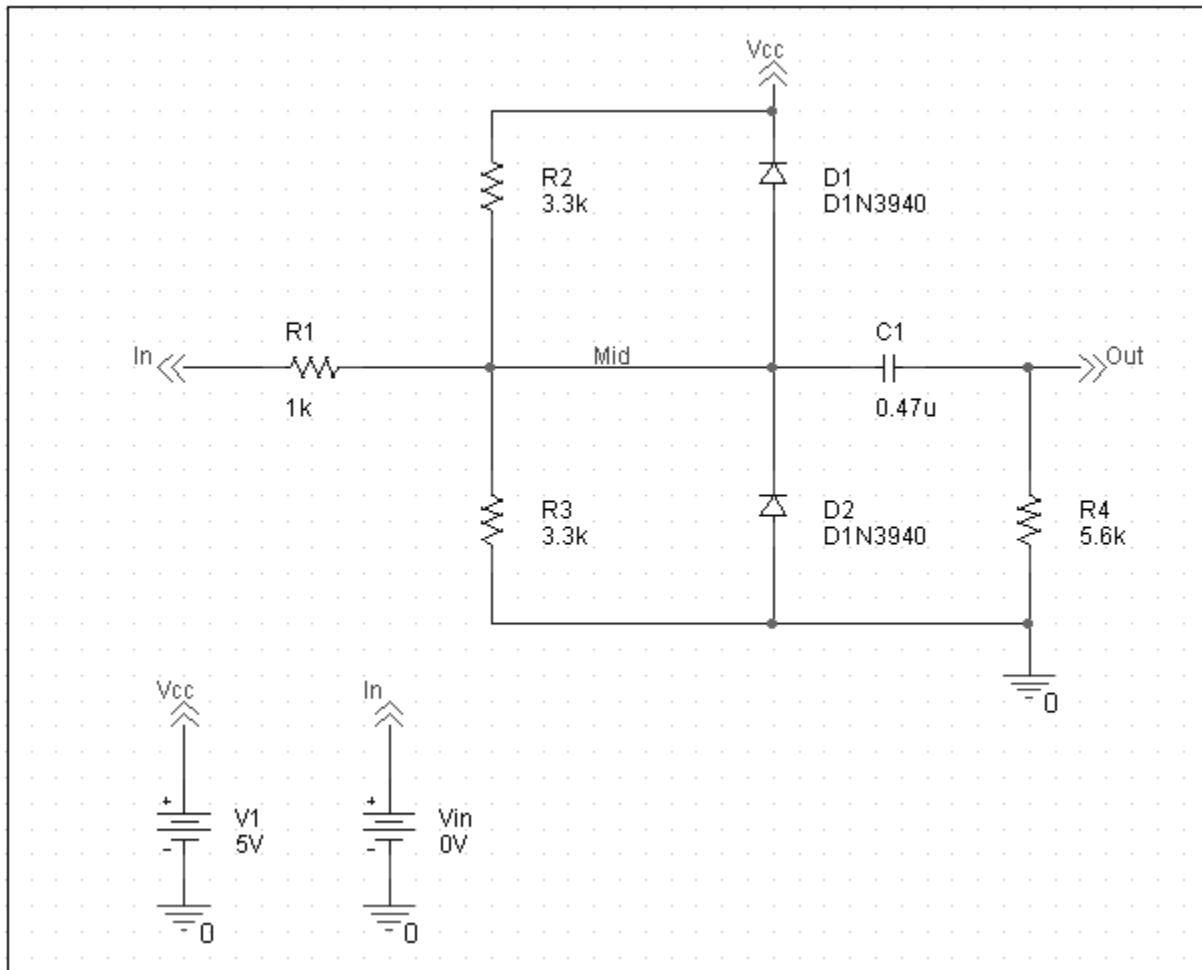

Figure 2-1 Diode clipper circuit.
This section describes how to use OrCAD Capture to create the simple diode clipper circuit shown in Figure 2-1.
6. Move the pointer to the correct position on the schematic page (see Figure 2-1) and click to place the first part.
- You will change part names and values that do not match those shown in Figure 2-1 later in this section.
2. Follow similar steps as described for the diodes to place the parts listed below, according to Figure 2-1 on page 76. The part names you need to type in the Part name text box of the Place Part dialog box are shown in parentheses:
- resistors (R)
- capacitor (C)
5. Place the off-page connector parts according to Figure 2-1 on page 76.
3. Place the 0 ground part from `SOURCE.OLB` as shown in Figure 2-1 on page 76.
6. Continue connecting parts until the circuit is wired as shown in Figure 2-1 on page 76.
Label the off-page connectors as shown in Figure 2-1 on page 76.